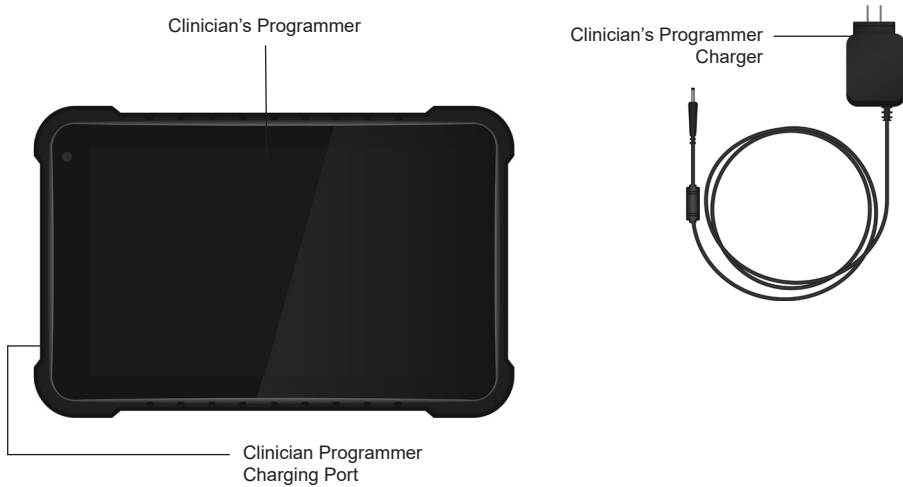

Figure 6-1: The Clinician's Programmer set-up
1. Insert the Clinician Programmer Charger into the Clinician Programmer charging port and plug the charger into a power socket. **See Figure 6-1.**